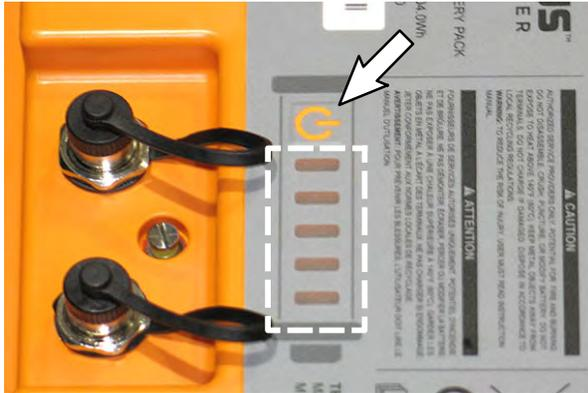

FIG. 13
- Turn off the lithium battery pack. Press and hold the power button on one of the lithium batteries for 20 seconds to turn the entire battery pack off. (Fig. 13).